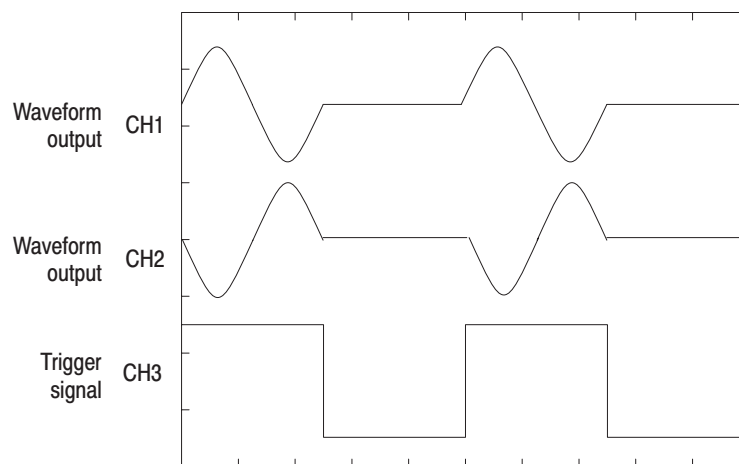

Figure 4–9: Relationship between trigger signal and waveform output (Instrument other than option 05)
- b. Verify that the oscilloscope displays a one-cycle sine wave for each trigger supplied by the function generator. See Figure 4–9.